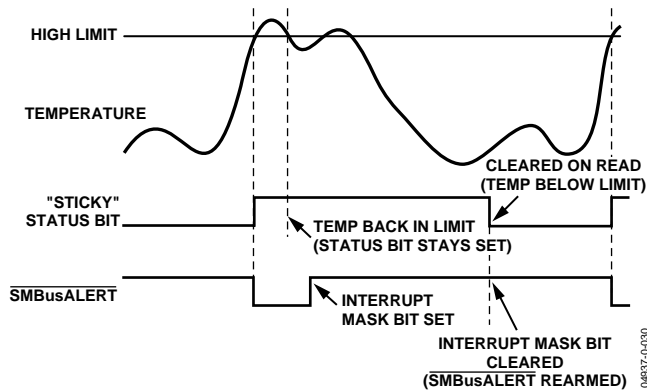

Figure 32. Handling SMBusALERTs
7. Periodically poll the status register. If the interrupt status bit has cleared, reset the corresponding interrupt mask bit to 0. This causes the SMBusALERT output and status bits to behave as shown in Figure 32.